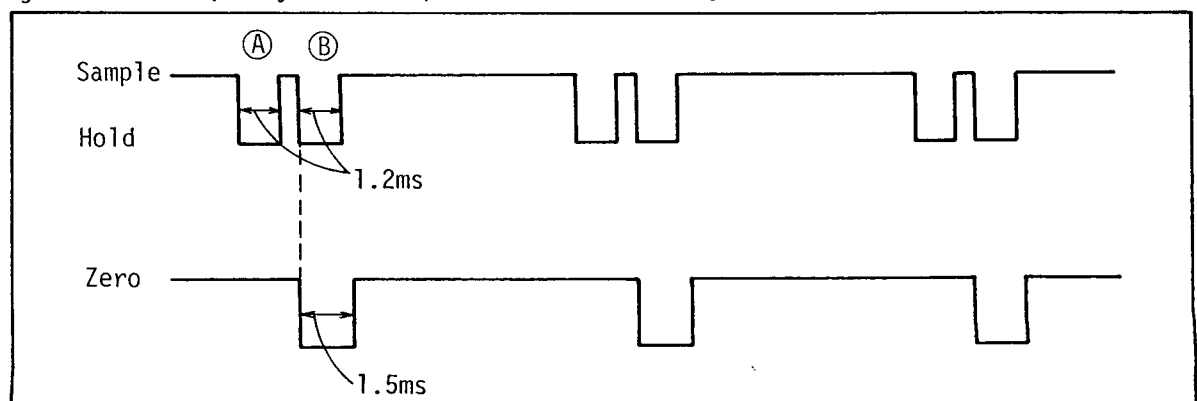

Figure 8-7. Sample Hold and Zero Timing Signal.
Photo Isolator (A2U12~15) provides electric isolation between the Digital section and the pA Meter section for suppressing noise from the Digital section which would increase current measurement error. The common signal circuit in the isolator floats. The Serial-to-Parallel Converter (A2U8) changes the serial data from the Digital section (PADATA) to parallel data which is separated into 4 bit data and a 3 bit address for the Device Decoder. The Device Decoder (A2U4) receives the 3 bit address and selects either the Sample/Hold Status Register, Zero Status Register, Range Status Register or the 12 Bit DAC Data Register. The Sample/Hold Status Register (A2U9) generates a signal (S/H) for the Sample/Hold circuit which is synchronized with PALTGR. Specific timing for S/H is given in Figure 8-7.
The Zero Status Register (A2U9) generates a signal (Zero) for the Auto Zero circuit which is synchronized with PALTGR. Specific timing of Zero is given in Figure 8-7. Range Status Register (A2U6) and Decoder (A2U10) generate signals (SW1~7) to operate relay switches (A1K1~6, A2K2) in the Range Register on the A1 board which are synchronized with PALTGR. Relationships between the Range Resistors (relay switches) and the
An Auto Zero circuit (A2U19, A2Q15~19) compensates the circuit to produce a zero offset error in the A-D Converter. The A-D Converter is disconnected from the I-V Converter on the A1 board (A2U16: off) and is connected to circuit common (A2Q15: ON) for about 1.5ms. The zero offset error is measured during time interval (B) in Figure 8-7. This zero offset error data is stored in the Digital section and used to correct the measured value of the unknown current during time interval (A).
Sample/Hold circuit (A2U18, A2Q11 14, etc.) holds the voltage (which is proportional to unknown current) between successive approximation periods. When this circuit is set to SAMPLE (A2Q12: ON), memory capacitor A2C7 is charged with voltage which is proportional to the unknown current. Subsequently, when this circuit is set to HOLD, (A2Q12: OFF) between 1.2ms (time interval (A) in Figure 8-7), voltage across A2C7 is held to a constant value and converted to digital data by the successive approximation technique.